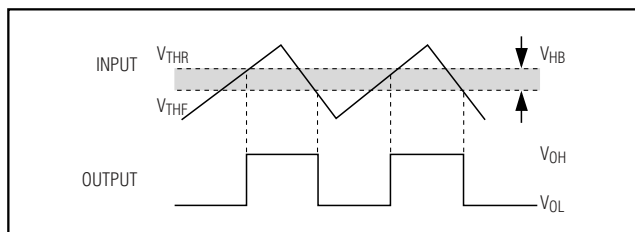
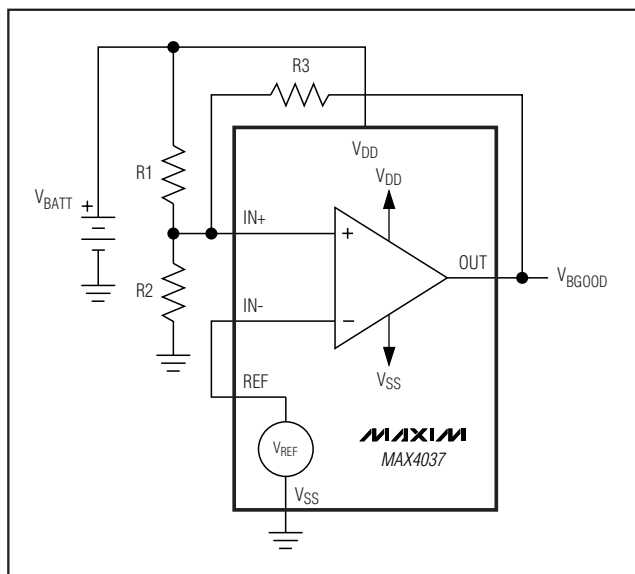

Figure 3. Hysteresis
Figure 4. Battery Monitoring
Although optimized for use as an operational amplifier, the MAX4036-MAX4039 can be used as a rail-to-rail I/O comparator (Figures 3, 4). External hysteresis can be used to minimize the risk of output oscillation. The positive feedback circuit, shown in Figure 4, causes the input threshold to change when the output voltage changes state.
The internal reference and low operating voltage of the MAX4037/MAX4039 make the devices ideal for battery-monitoring applications. Hysteresis can be set using resistors as shown in Figure 4, and the following design procedure:
- 2) Choose the hysteresis voltage (V_{HB}), the voltage between the upper and lower thresholds. In this example, choose $V_{HB} = 50mV$ (see Figure 3).